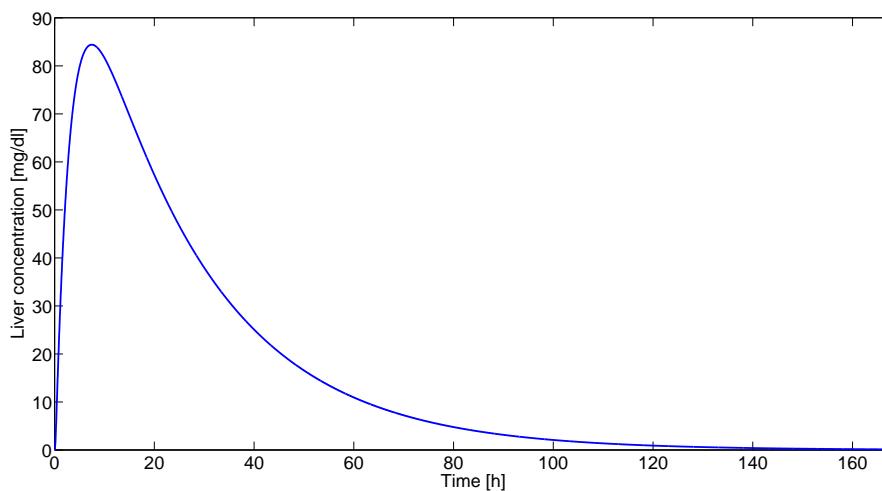

Figure 5.1 Liver concentration at 500 mg dose
- c.** Simulating the system with this oral prescription produces the curve in Fig. 5.1 below. Se code in the end of the solution to this exercise.